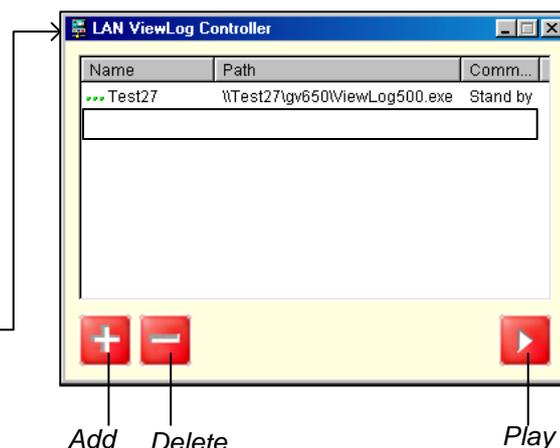

Figure 4-30-2
1. At the local computer, execute **LANViewLogCtrl.exe** to bring up the LAN ViewLog Controller window (Figure 4-30-2).